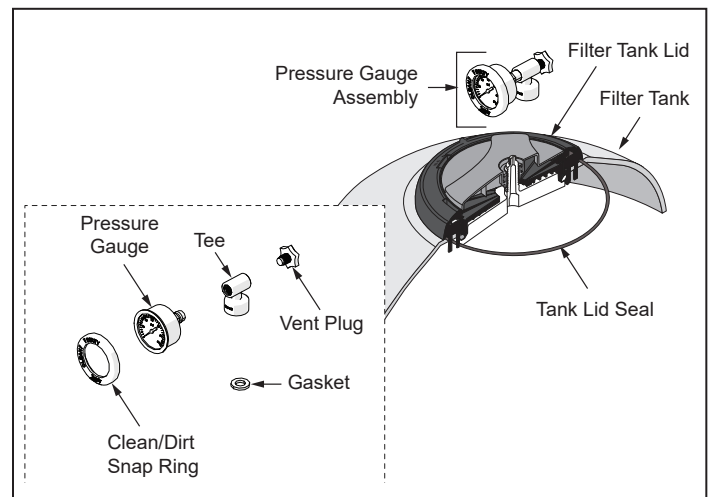

Figure 5. Lid and Pressure Gauge Installation
Ensure that the o-ring is completely clean and lubricated with a non-petroleum based lubricant. Before subjecting the filter to pressure, ensure that the handle is revolved as tightly as possible so that a good seal is achieved. See Figure 5.
4. Check that the lid is correctly seated and tight. See Figure 5.